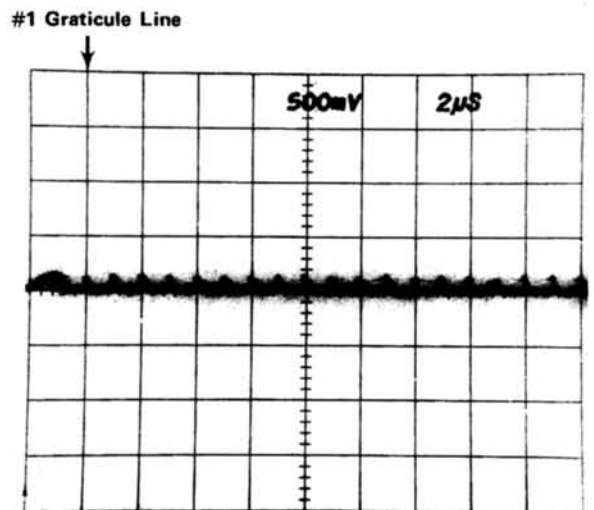

Fig. 7-7. Setting of Leadtime and Registry.
f. Alternately push and release the SWP pushbutton and check that the first narrow time marker remains between 0.0 and 1.1 divisions from the left edge of the graticule (see Fig. 7-7).
- b. Turn R472 (see Fig. 7-3) to the clockwise extreme, then adjust counterclockwise until a marker is centered on the number one graticule line (see Fig. 7-7).
- d. Adjust R230 (see Fig. 7-3) so that the first narrow marker (see Fig. 7-7) is precisely centered on the number one graticule line.
- b. Check that there are two markers per division and that every second marker is within 0.3 division of the corresponding major graticule line for the first through the ninth division (see Fig. 7-7).